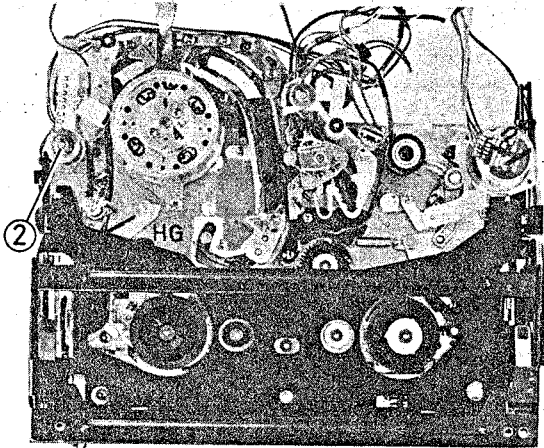

Fig. 2-93 Impedance Roller Removal
Impedance Roller Removal (Fig. 2-93)
2. Remove one (1) nut and pull out the impedance roller. (See Fig. 2-93)